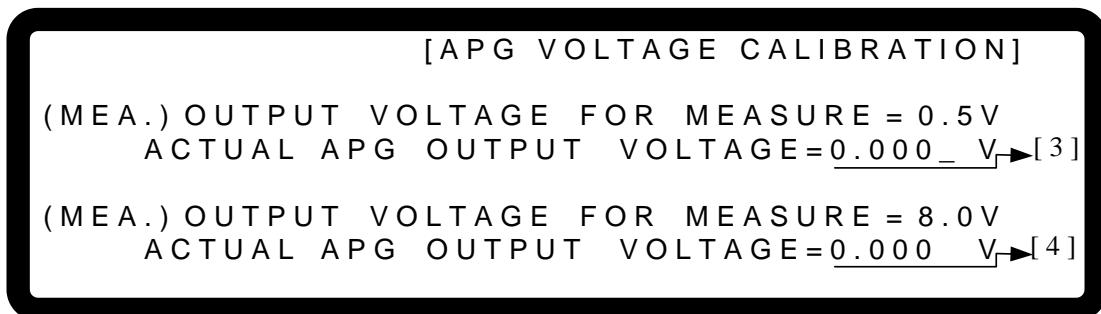

Figure 3-128
6. Press “” again and the system will set the output voltage of Pin 6 on the rear panel to 0.5V and the cursor will stop at position [3] as shown in Figure 3-128. Input the voltage read by DVM2 and press “[ENTER]” to confirm.
7. Press “” again and the system will set the output voltage of Pin 6 on the rear panel to 8.0V and the cursor stops at position [4] as shown in Figure 3-128. Input the voltage read by DVM2 and press “[ENTER]” to confirm.